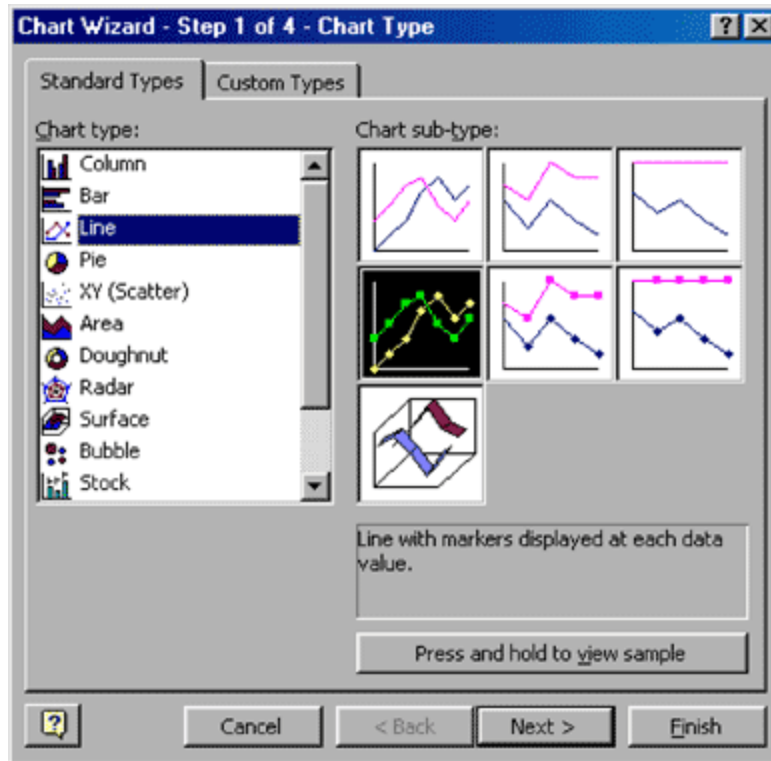

Figure 12. The Chart Wizard gives you several choices for chart format. The Line chart typically works well.
4. From the Chart Wizard that appears, select the type of chart that is required. Typically the Line chart works well with log data (Figure 12).